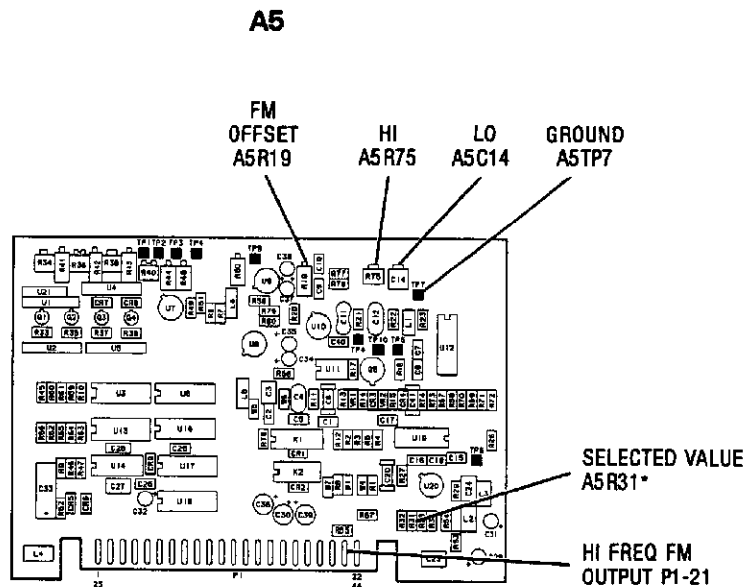
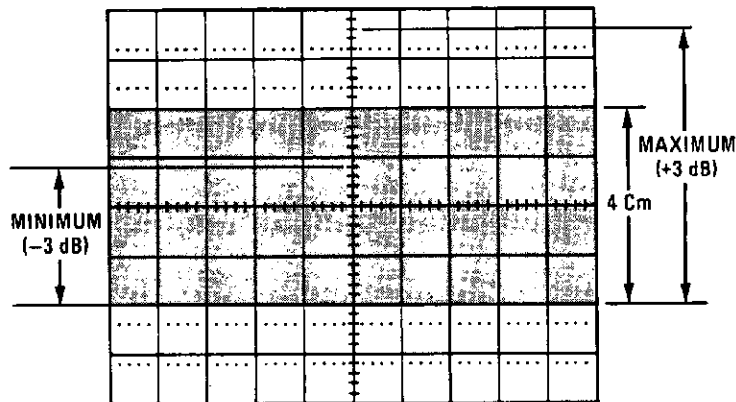

Figure 5-46. Location of A5 FM Driver Adjustments
Figure 5-47. FM Flatness Tolerance, DC to 2 MHz
2. Connect the DVM between A5 pin 21 and A5TP7 (HIGH FREQ FM RET). Refer to Figure 5-46 for adjustment procedure locations. Adjust A5R19 (FM OFFSET) for a DVM reading of 0.000 ± 0.001 Vdc.
6. Manually sweep the Function Generator frequency from DC to 100 kHz. Select resistor A5R31 so that the amplitude of the waveforms at Function Generator frequencies of 100 Hz and 100 kHz are the same ± 0.2 divisions on the CRT. Refer to Figure 5-46 for the location of A5R31. Refer to Table 5-3 for the allowable range of values for A5R31.
7. Manually sweep the Function Generator frequency from DC to 10 MHz. Adjust A5C14 (LO) and A5R75 (HI) controls to obtain the most constant overall response from DC to 10 MHz. Repeat this step several times.
8. Check that the ± 3 dB FM flatness supplemental characteristic is met between DC and 2 MHz as follows. Manually sweep the Function Generator frequency between DC and 2 MHz. On the Oscilloscope, note the maximum and minimum response points as shown in Figure 5-47. The maximum point (+3 dB) can be as high as 5.6 divisions, and the minimum point (-3 dB) can be as low as 2.8 divisions.